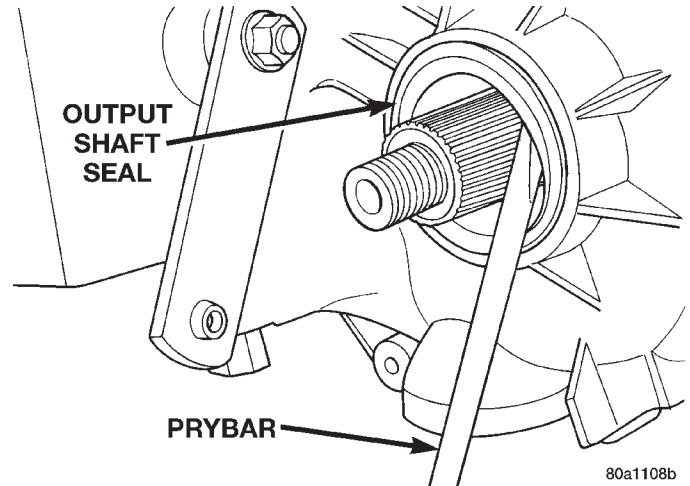

Fig. 49 Remove Front Output Shaft Seal
- (4) Remove front output shaft seal using an appropriate pry tool (Fig. 49) or slide-hammer mounted screw.